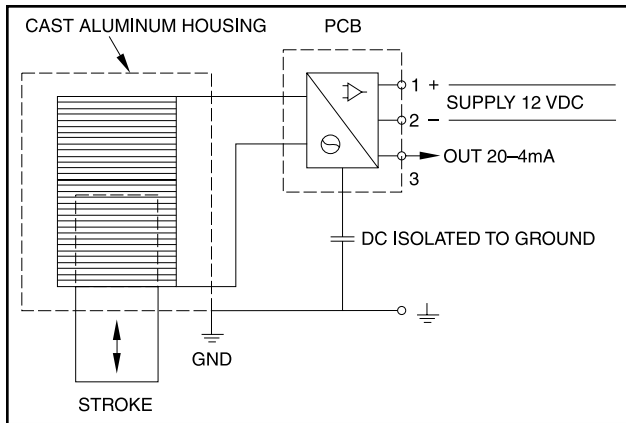
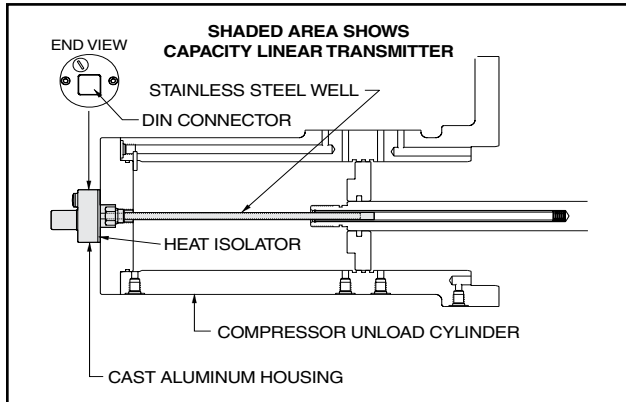
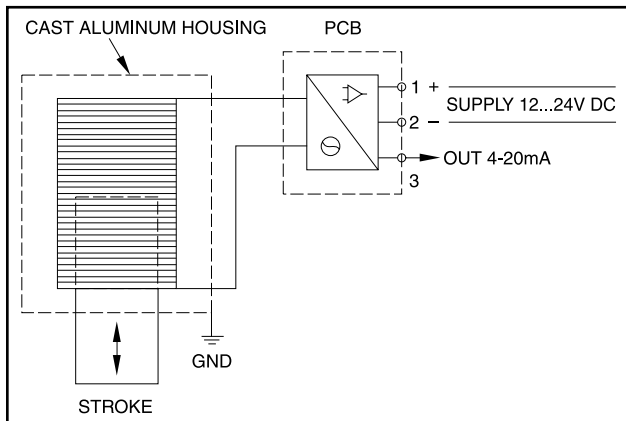

Figure 8 - Wiring Diagram for Slide Stop Transmitter
Figure 9 - Capacity Slide Valve Transmitter
Figure 10 - Wiring Diagram for Slide Valve Transmitter
The slide valve transmitter (Figure 9) measures the position of the slide valve (SV) and sends a 4 to 20mA signal to your control system. See Figure 8. The controller will adjust the position of the SV according to the motor load set point. The correct position is important to properly load the compressor and motor. It is important not to overload the compressor and motor. Observe the maximum power input and ensure design limitations are not exceeded. Connect to +/- and signal as shown in the wiring diagram, Figure 10. Refer to Frick compressor panel instructions for calibration procedure 090.040-O.